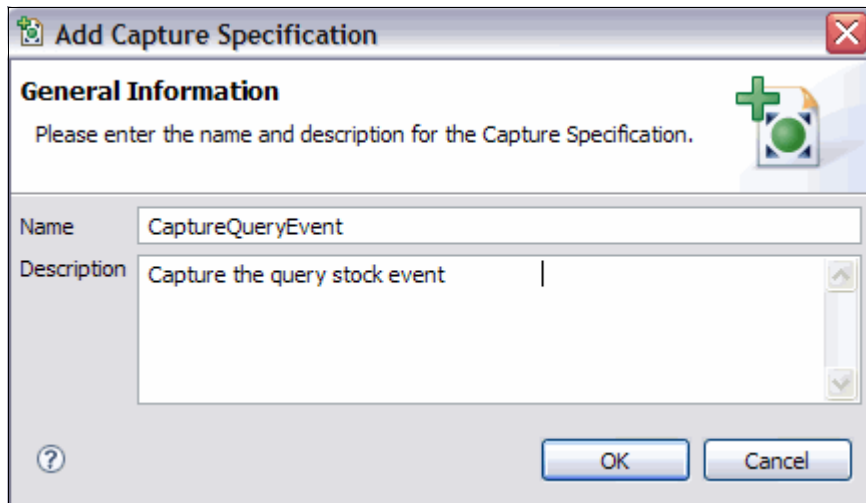

Figure 5-11 Add CaptureQueryEvent Capture Specification
10. In the Add Capture Specification view, enter the information shown in Figure 5-11 on page 101: